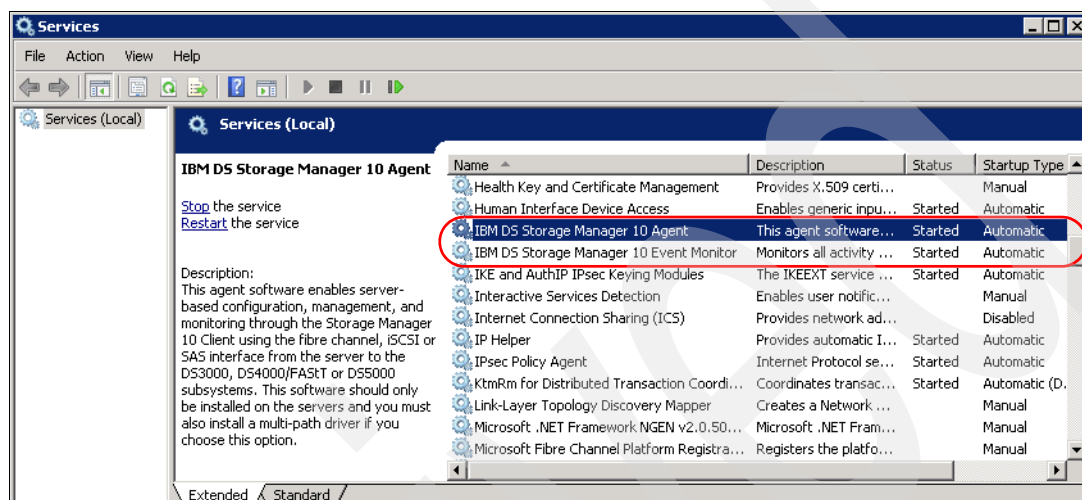

Figure 4-5 Verifying the SMagent installation
2. Scroll through the list of services until you find IBM DS Storage Manager 10 Agent as shown in Figure 4-5.